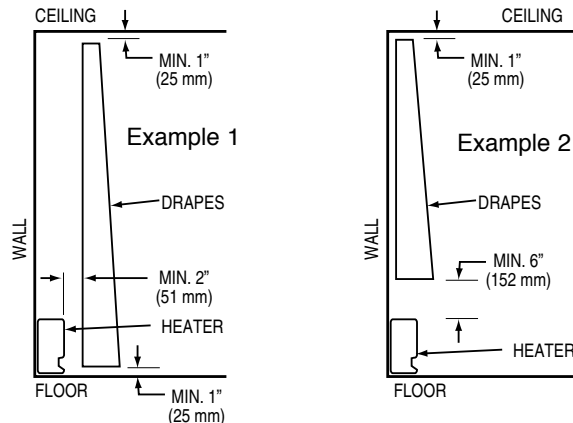

Figure 2: Clearance for Drapery
6. **CAUTION – Heater Operates at High Temperatures. Keep Electrical Cords (including telephone and computer cables), Drapes, and Other Furnishings Away From Heater.** For efficient and safe operation, we recommend maintaining a minimum of 6 inches (152 mm) clearance above and in front of the heater at all times. See Figure 2 for minimum clearance requirements for drapery.
**Heater to Drapery:** do not install heater where curtains or drapery will contact the heater. See Fig. 2 for required minimum clearances.